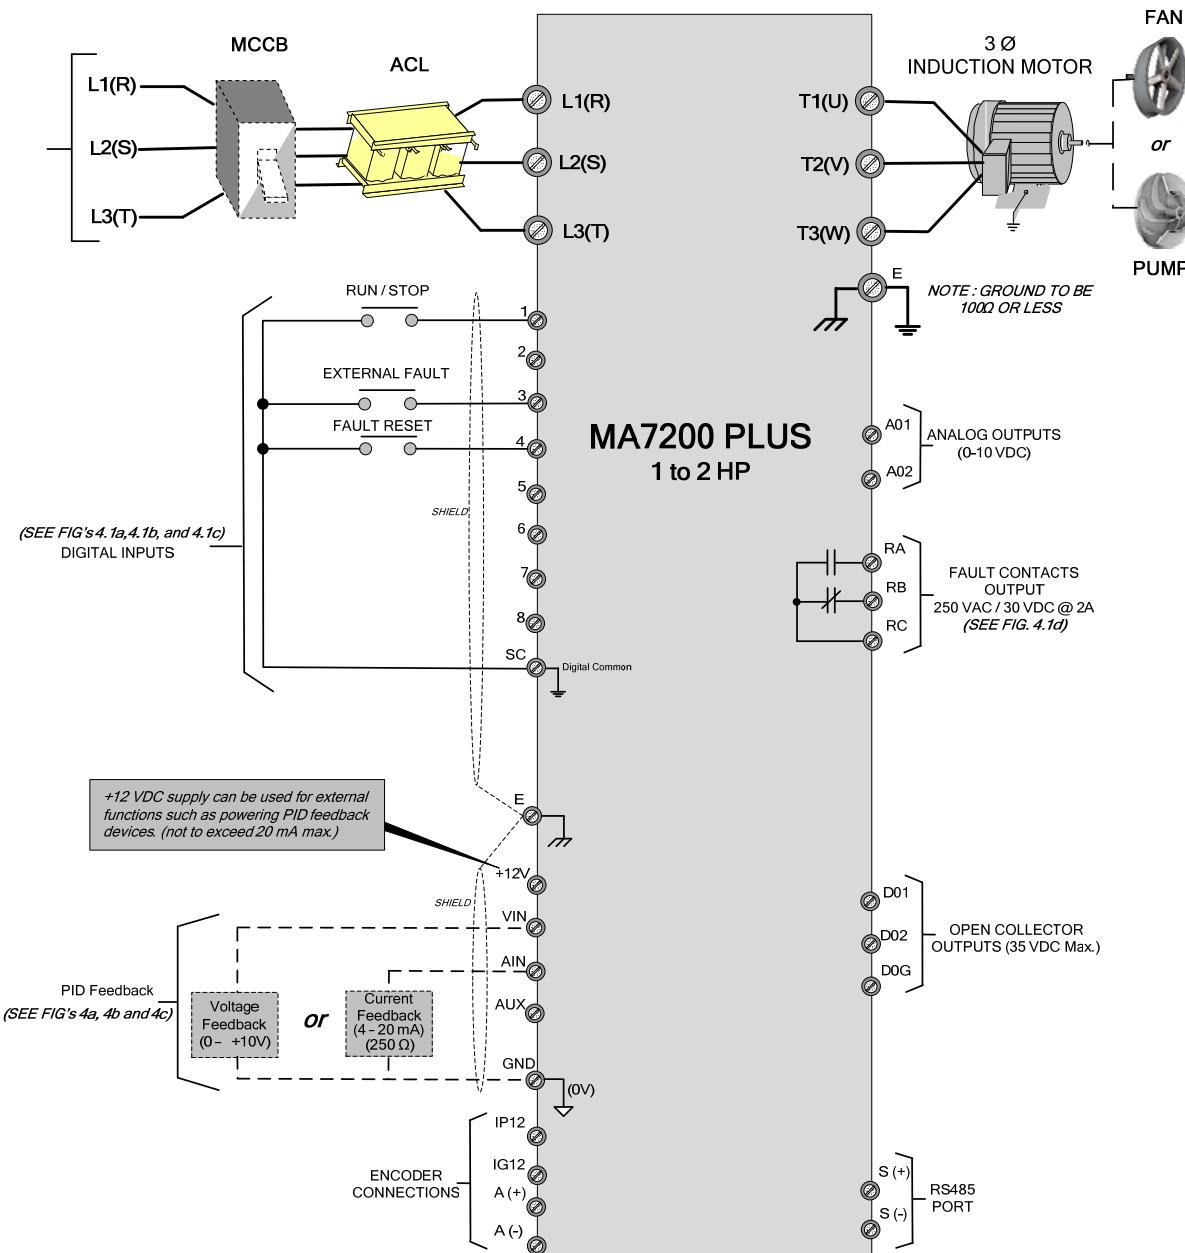

Fig. 3.1 MA7200 PLUS 1 to 2 HP FAN or PUMP Application Diagram
Fig. 3.1 below is an overall basic electrical connection diagram for the **MA7200 PLUS 1 – 2 HP**. It is used in conjunction with the other sections of this guide to give the user the ability to successfully start up a Fan or Pump application. More detailed information is available in the **MA7200 PLUS Manual** to which the user may refer.
- In accordance applicable codes make electrical connections to the motor and input power terminals. (**Refer to the block diagram Fig. 3.1 for 1-2 HP, or Fig.3.2 for 3 - 75 HP**). No other external connections should be made at this time, as the initial control will be from the Keypad.